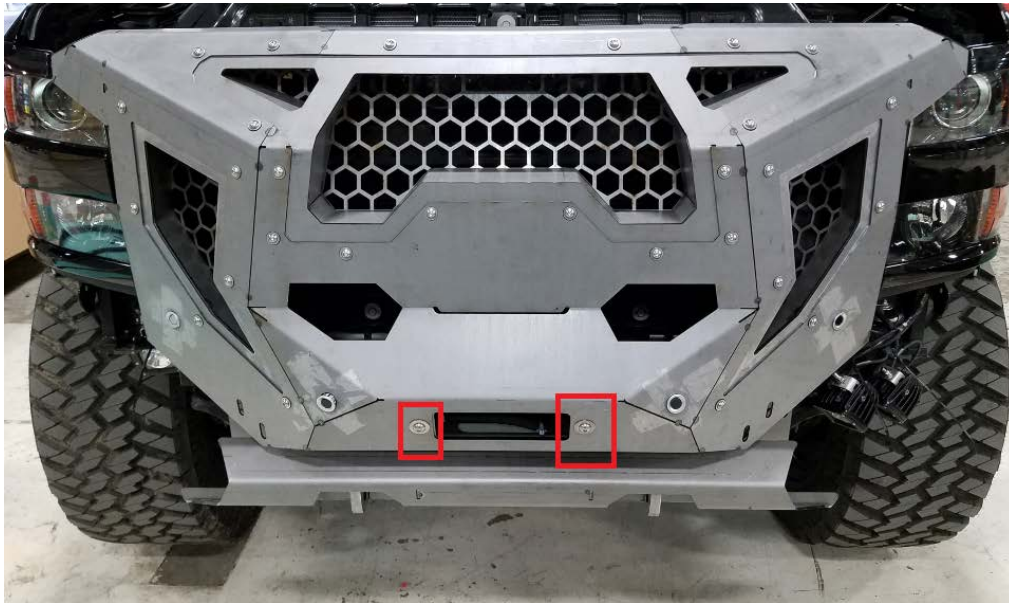

Figure 18a
**E. Install the center grill section onto the truck (Figure 18a & b). Secure it to the 2 brackets under the hood with 3/8" x .75" bolts. Fasten the center section to the winch tray with the 7/16" stainless button head screws. If you have a winch, the fairlead should be attached at this time using the bolts provided with the winch. Adjust the center section so that it's centered on the truck and at the correct height and tighten all fasteners. Connect the sensor wiring harness to the harness on the truck.**